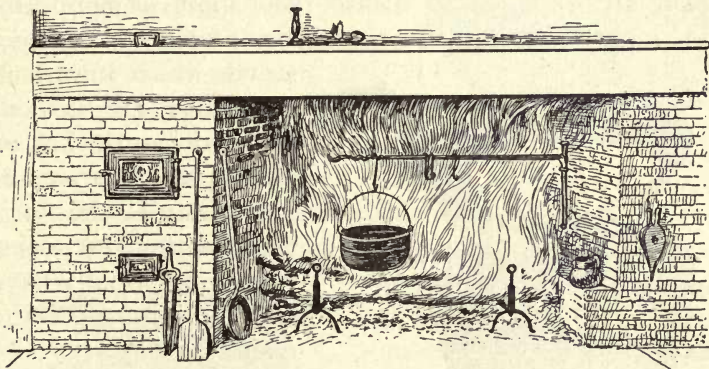

FIG. 230. — An Old-fashioned Fireplace.
**Apparatus for Utilizing Fuels.** — Most of the modern fireplaces are built more for ornament than for use, but it has been less than a hundred years since the fireplace was the means of heating the home and cooking the food (Figure 230). Of course the waste of heat in the fireplace was large, but it was an excellent ventilator and furnished a cheer that is absent in the modern methods of heating.